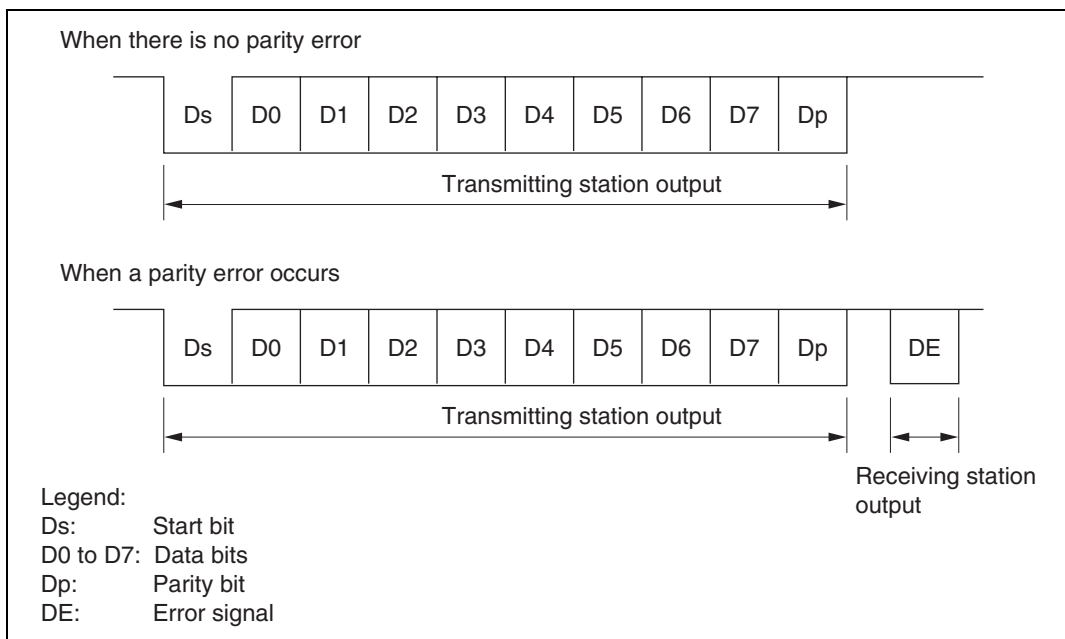

**Figure 13.3 Smart Card Interface Data Format**
**Normal Transfer Mode:** Figure 13.3 shows the smart card interface data format in the normal transfer mode. In reception in this mode, a parity check is carried out on each frame. If an error is detected an error signal is sent back to the transmitting end, and retransmission of the data is requested. If an error signal is sampled during transmission, the same data is retransmitted.